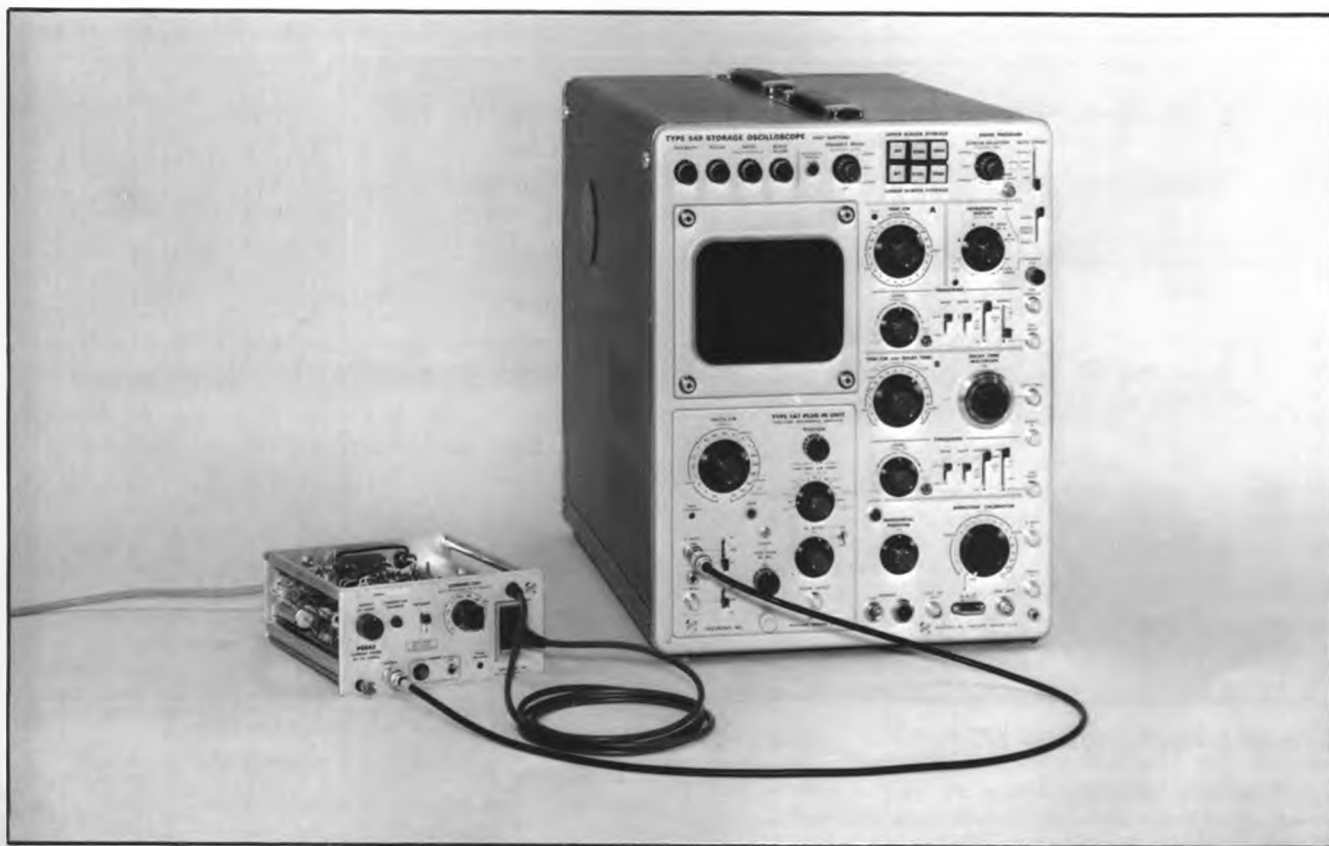

Fig. 6-6. Test setup for steps 6 through 9.
6. Adjust Output DC Level Range (R93) ①
a. Remove the 1 \times probe and connect the 50 Ω termination to the + Input connector. Connect a 50 Ω cable from the P6042 OUTPUT to the termination. See Fig. 6-6.
- a. Reconnect the P6042 OUTPUT, terminated in 50 Ω, to the oscilloscope input. See Fig. 6-6.